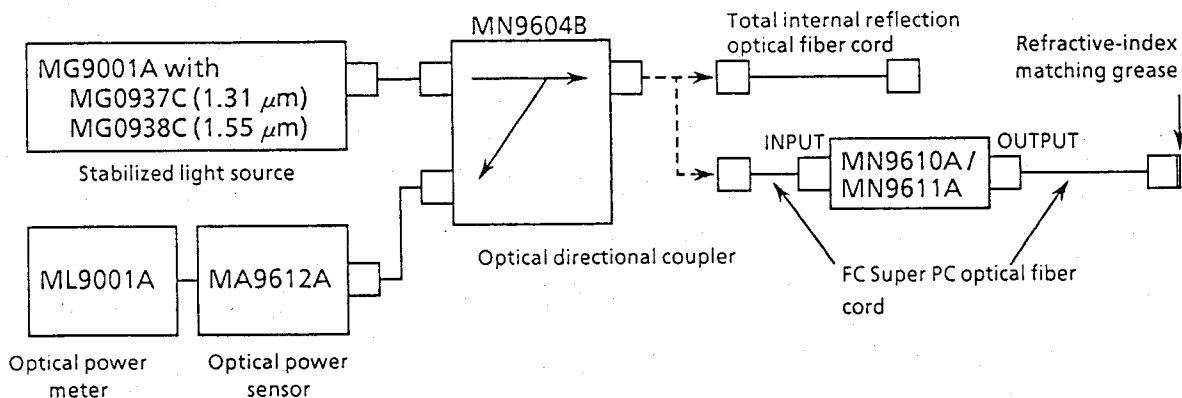

Fig. 7-2 Test System (2)
1. Figure 7-2 shows the block diagram of the test system that measures the return loss. Connect a total internal reflection cord to the MN9604B Optical Directional Coupler, and press the [RELATIVE] key of the ML9001A to display "0 dB".